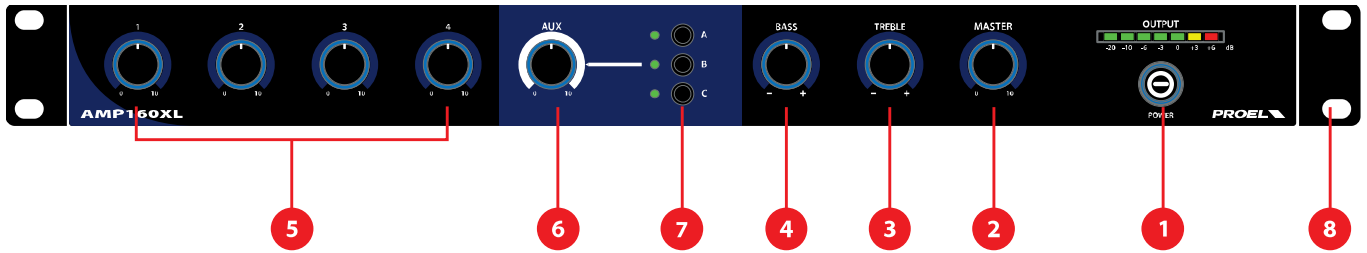

Fig. 1
The device has 3 AUX inputs that can be selected from the front panel (**fig.1 ref.7**):